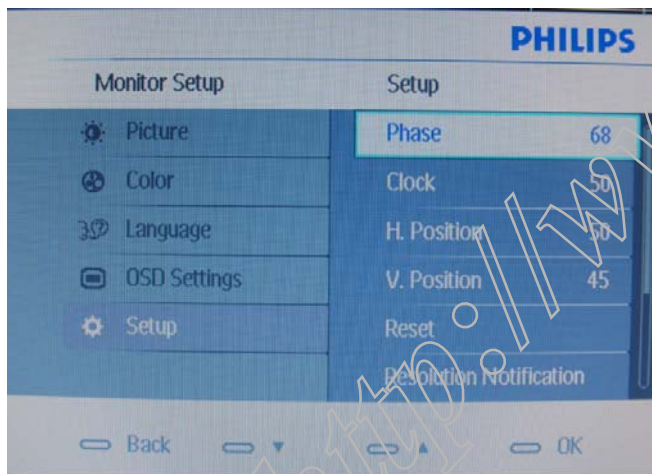

Fig.3
- c. Press **UP** or **DOWN** to select the option of **setup** and then press **MENU** to bring up its submenu as shown in Fig.3.